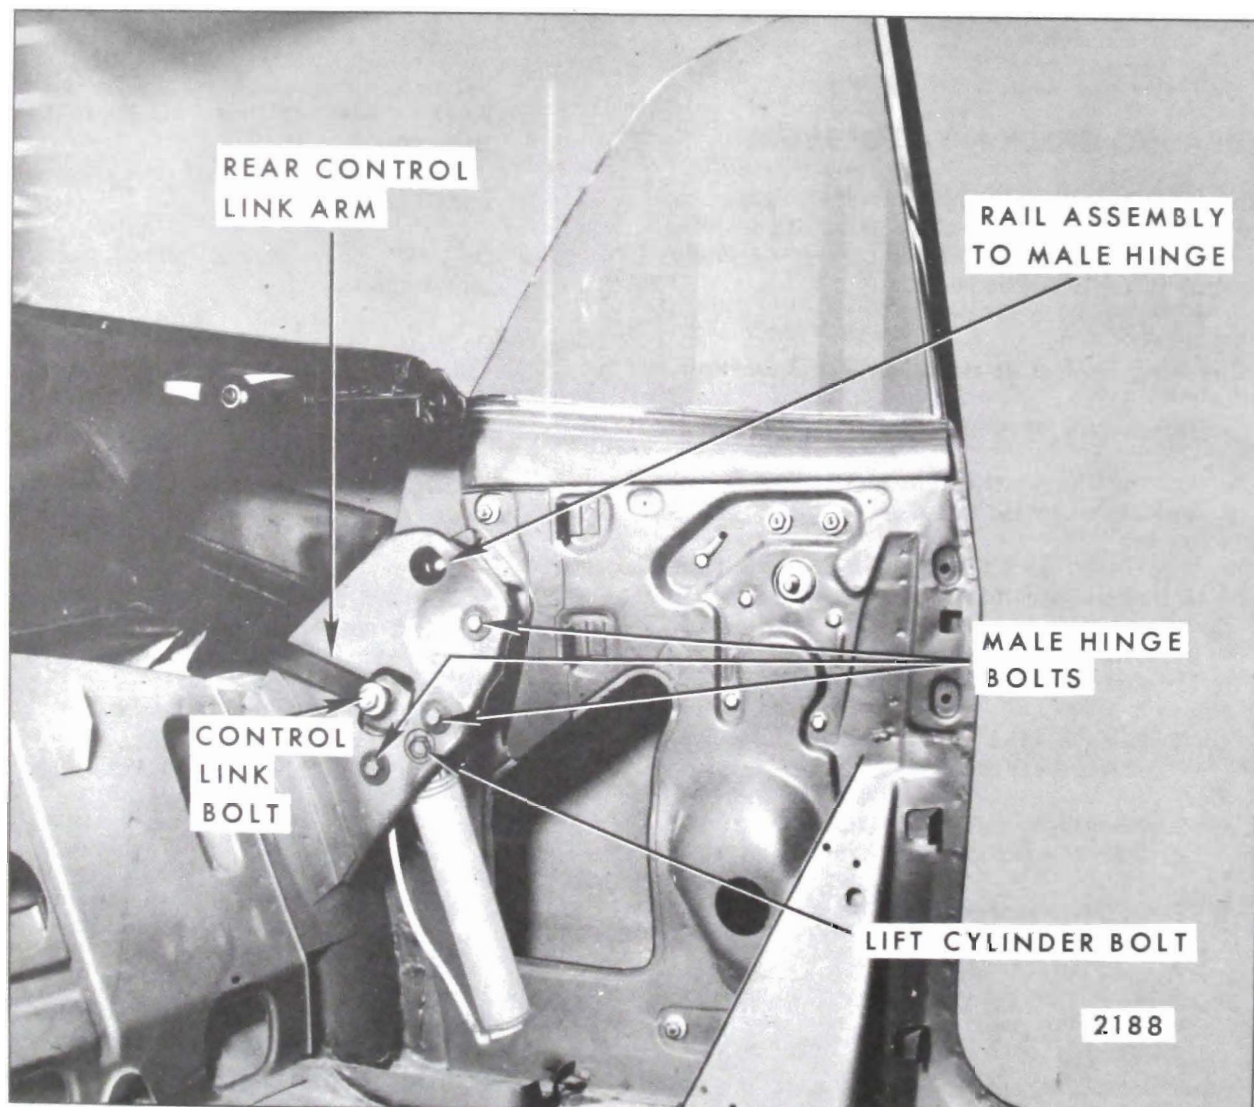

Fig. 13-70 — "A" Body Hydraulic Lift Cylinder Attachment
6. Remove attaching nut, bolt, bushing and washer from upper end of cylinder rod, Figures 13-70 and 13-71.